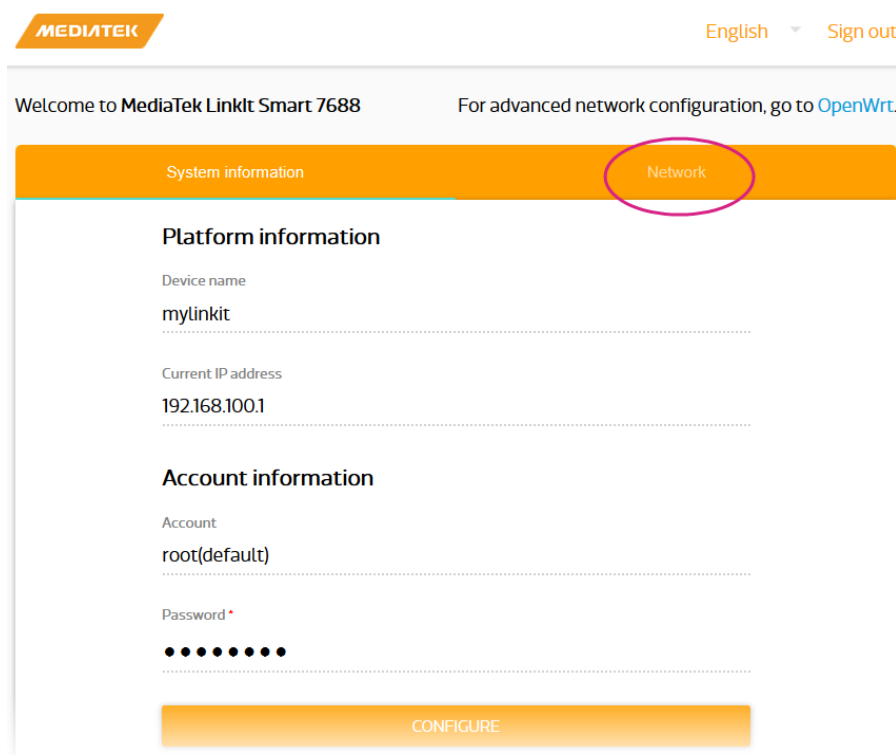

Figure 29 Change networking setting in Web UI
- 1) Click **Network** button on upper right as shown in Figure 29.